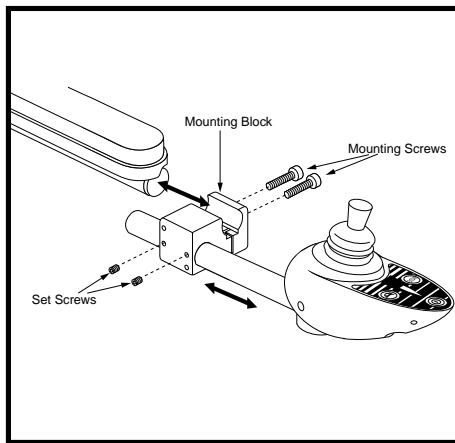

Figure 13. Controller Position - Mounting Block
4. Loosen the mounting screws in the controller mounting block. See figure 13.
2. Loosen the setscrews in the controller mounting block. See figure 13.